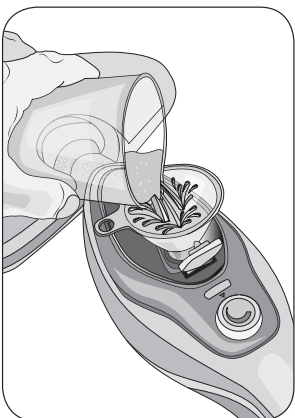

Fig. 6
Open the tank cap (C). Fill the water tank with 370 ml of fresh cool water (Fig 6). Use the funnel (N) and the measuring cup (M) supplied: 370 ml correspond to a measuring cup and a half. Close the tank again.
No special operation is required when there is no more water in the tank. Unplug it from the socket-outlet. Fill the water tank with 370 ml of fresh cool water (Fig 6). Use the funnel (N) and the measuring cup (M) supplied: 370 ml correspond to a measuring cup and a half. Close the tank again.